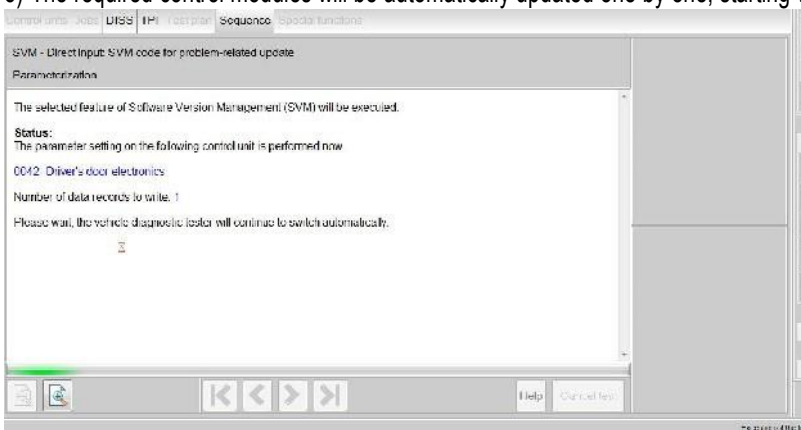

Figure 3
- 5) The required control modules will be automatically updated one by one, starting with 0042 – Door electronics Drivers side (Figure 3)